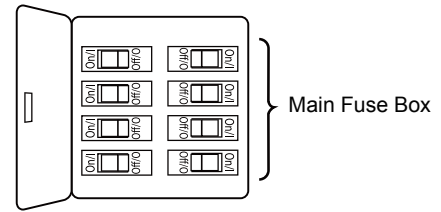
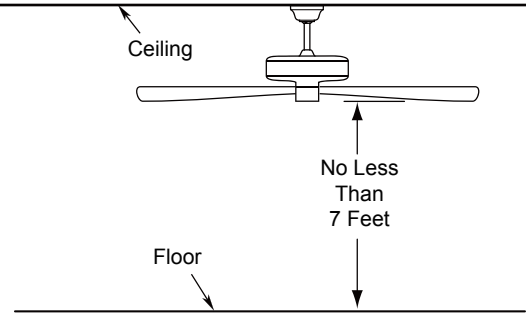
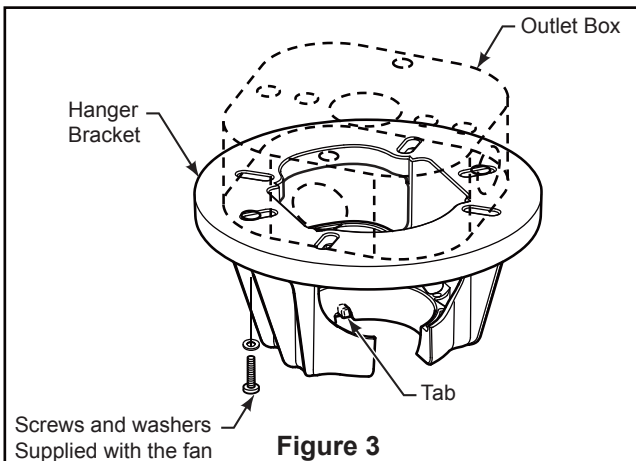

Figure 1
Figure 2
Figure 3
Your new ceiling fan will require a grounded electrical supply line of 120 volts AC, 60 HZ, 15 Amp Circuit. Electrical code requires use of a fan-rated outlet box to support the extra weight and motion associated with a ceiling fan. A fan-rated outlet box will be labeled as such and typically supports up to a 70lb ceiling fan. Fan-Rated Outlet Boxes vary in ratings and design. Ensure the ratings of your ceiling fan outlet box meet the requirements for the ceiling fan being installed. Figure 1, Figure 2 and Figure 3 depicts different structural configurations that may be used for mounting the outlet box.
Low profile outlet box (Figure 1)
Deep outlet box (Figure 2)
Deep outlet box with brace (Figure 3)
- 1. Remove the three stabilizer tabs and plastic bag from the motor. Discard the stabilizer tabs. (Figure 1)
- 2. Prior to assembly, set aside and save the hardware bags packaged with your fan. Remove the hanger ball by loosening the set screw in the hanger ball until the ball falls freely down the downrod. Remove the pin from the downrod, then remove the hanger ball. Retain the pin and hanger ball for reinstallation in Step 7. (Figure 2)
- 3. Remove the hairpin clip and clevis pin from the bottom of the downrod. Retain the pin and clip for reinstallation in Step 5. (Figure 3)
To avoid possible fire or shock, be sure electricity is turned off at the main fuse box before hanging. (Figure 1)
The fan must be hung with at least 7' of clearance from floor to blades. (Figure 2)
1. Securely attach the hanger bracket to the outlet box using the #8-32 outlet box screws and washers supplied with the fan. (Figure 3)
NOTE: Outlet box screws pass through slotted holes of the hanger bracket. (Figure 3)
3. Carefully lift the fan and seat the downrod/hanger ball assembly on the hanger bracket that was just attached to the outlet box. (Figure 4) Be sure the groove in the ball is lined up with tab on the hanger bracket. (Figure 3)
- 1. To set the code on receiver unit, slide dip switches to the same positions as set on the remote control. (Figure 1)
<p>To avoid possible electrical shock, be sure electricity is turned off at the main fuse box before wiring. (Figure 2)</p>
- 2. Slide the receiver into the hanger bracket before wiring as shown in figure 3.